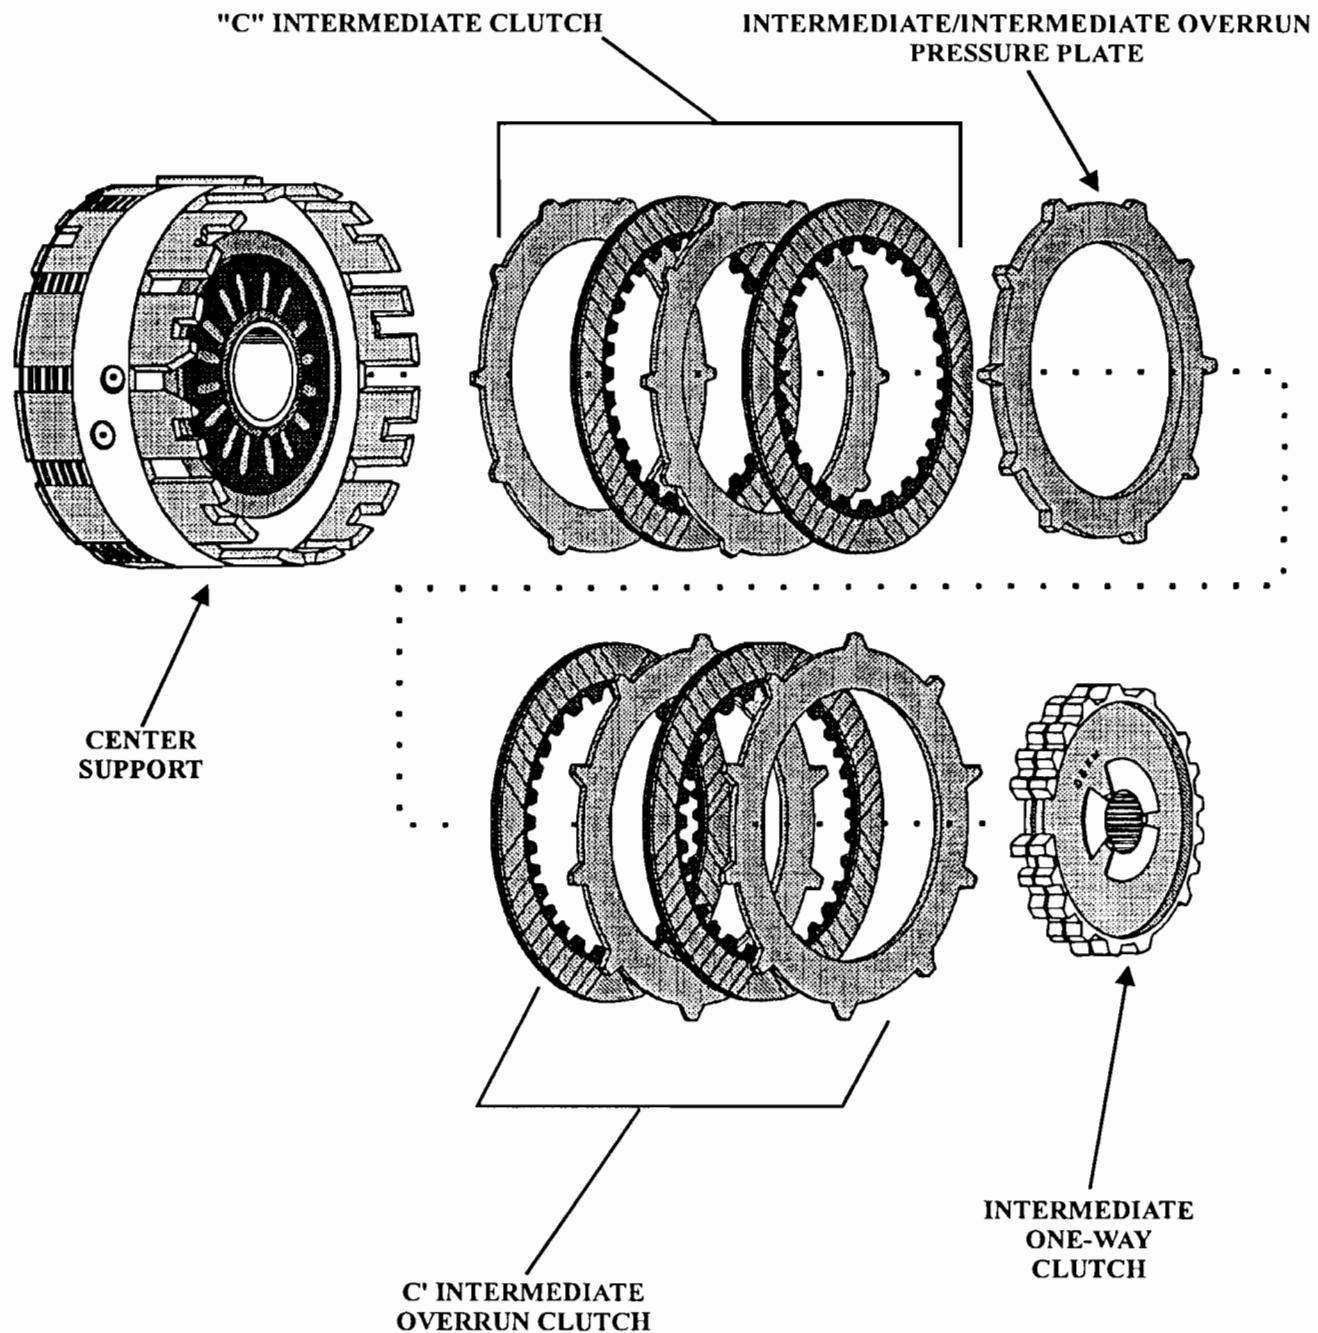

Figure 68
**CAUSE:** A: Incorrectly assembling the intermediate and intermediate overrun friction and steel plates into the front half of the center support assembly will create a space between the intermediate overrun clutches and the intermediate/intermediate overrun pressure plate, depending on where the assembly error was made, causing either of the clutch pistons to over extend its travel, thereby cutting the piston seal on the return travel of the piston. Refer to figure 68 for the correct order of assembly.
**CORRECTION:** A: Refer to the illustration in figure 68 and assemble the intermediate section as follows: